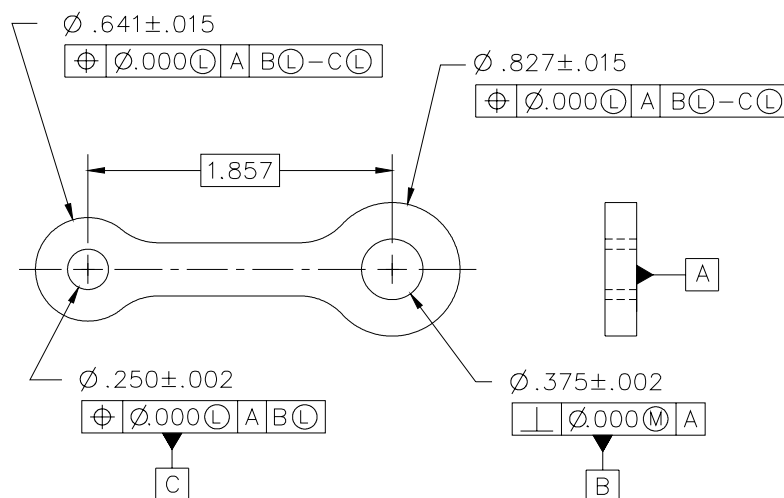

Figure 1
In Figure 1, the LMC virtual condition of the external feature on the left is  $\phi .626$ . Since we specified a zero positional tolerance at LMC,  $\boxed{\oplus \phi .000 \text{ (L) A B (L) - C (L)}}$ , a  $\phi .626$  feature must be perfectly located, prohibiting the feature from violating the  $\phi .626$  LMC virtual condition boundary. A  $\phi .656$  feature (MMC), however, is allowed to be out of tolerance by as much as  $\phi .030$ , but it, too, will not violate the  $\phi .626$  LMC virtual condition boundary.
In Figure 1, our structural analysis requires us to control the minimum wall thickness to be greater than or equal to  $.187$ . For these types of applications, we apply LMC modifiers to assure an adequate "boundary of material". LMC modifiers (applied to controlled features and datum features) override Rule #1 (for both features.) Additionally, this invokes a perfect form boundary at LMC. An MMC feature does not need to have perfect form, but it may not violate the LMC perfect form boundary.